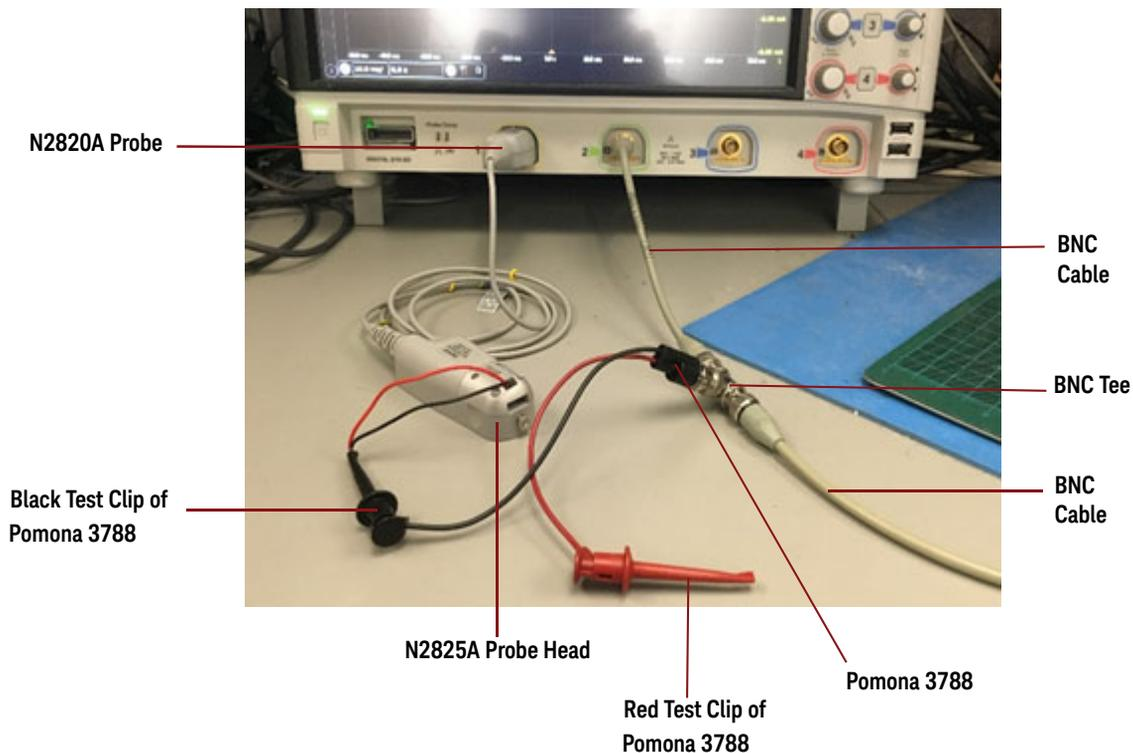

Figure 30 Example of Initial Calibration Setup
- 4 Connect the equipment as shown in Figure 30 on page 68. Observe the following requirements:
- Connect the Pomona 3788 to two BNC cables using a BNC tee. Then connect one of these BNC cables to a scope channel and the other BNC cable to the Aux Output BNC connector located on the Oscilloscope's rear-panel (as shown in Figure 30).
- Connect both the N2825A's sensor leads (red and black wires) to the black test clip of the Pomona 3788 as shown in Figure 30.